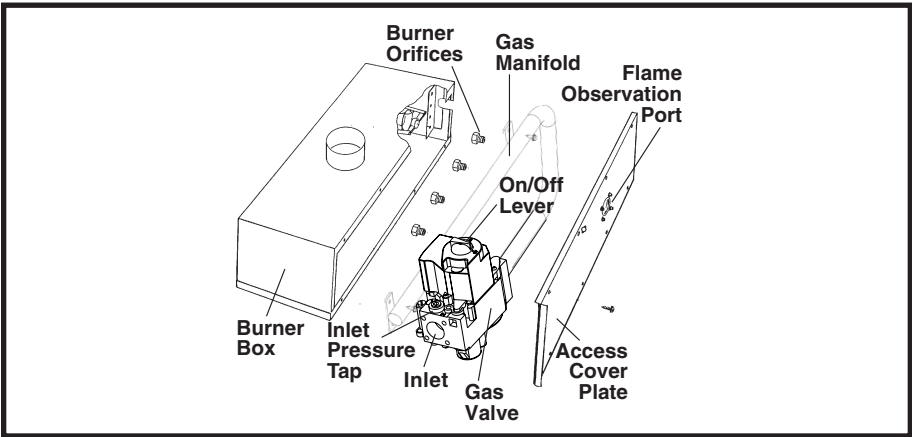

Figure 2. Typical Sealed Burner Box With Access Cover Plate
5. If present, disconnect the rubber pressure tubes from the gas valve and the burner box. **NOTE:** Pressure tubes are present only in units with a sealed burner box as shown in Figure 2.
6. If present, remove the burner access cover plate from the burner box. **NOTE:** the burner access cover plate is present only in units with a sealed burner box as shown in Figure 2.
5. Reconnect the rubber pressure tubes to the gas valve and the burner box. Reinstall the burner access cover plate. Note that this step is only for the sealed burner box, shown in Figure 2.